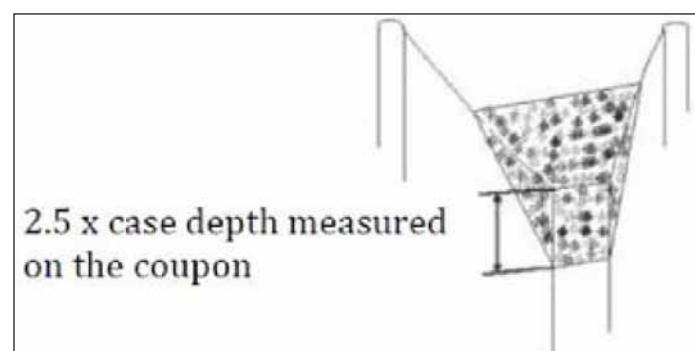

Figure 25—Sampling on an actual gear tooth for case-hardened layer inspection.
**Case-hardened layer.** According to most standards, the case-hardened layer as well as the case depth, is verified on a coupon which undergoes all the heat treatments of the part itself. However, the coupon standard dimensions are not related to tooth dimensions, and thus the obtained results can be subject to discussion. To avoid such a discussion, a procedure was developed internally for the inspection of the case hardened layer and case depth, on the part itself. After final grinding, a sample is cut from one tooth edge, and due to case hardening deformations, this is where the maximum of the case hardened layer has been ground (Fig. 25).